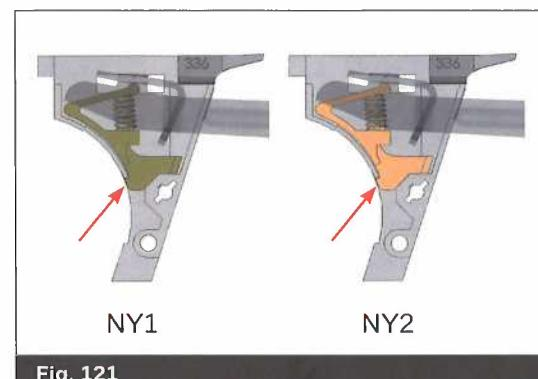

Fig. 121
- If using the NY1 (olive green) or NY2 (orange) trigger spring; insert the spring down inside the trigger mechanism housing and ensure that it is oriented correctly. Ensure the catch on the lower end of the NY trigger spring snaps into the slot at the rear of the trigger housing. (Fig. 121)